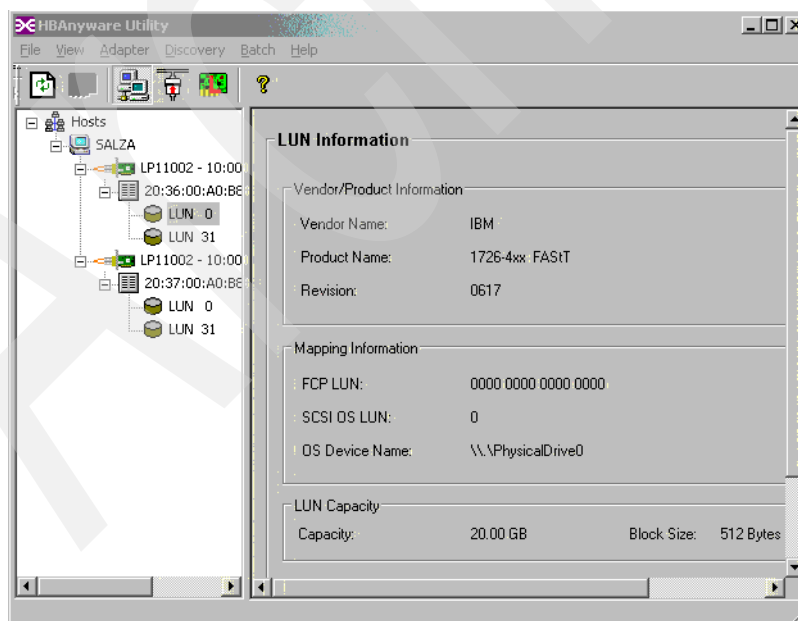

Figure 24-39 Emulex - HBAnyware - LUN Information
- The right pane displays a summary of a highlighted item in the left pane. For example, in Figure 24-39, "LUN 0" is highlighted, and the summary shows that this is a DS3400 device.